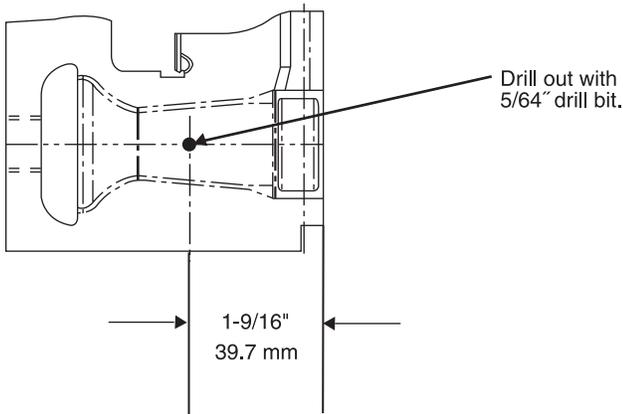

Fig. 24 - Mixer Screw Location
1. Locate the dimple on each burner venturi tube. If you cannot locate the dimple, refer to Fig. 24 for location of the mixer screw.